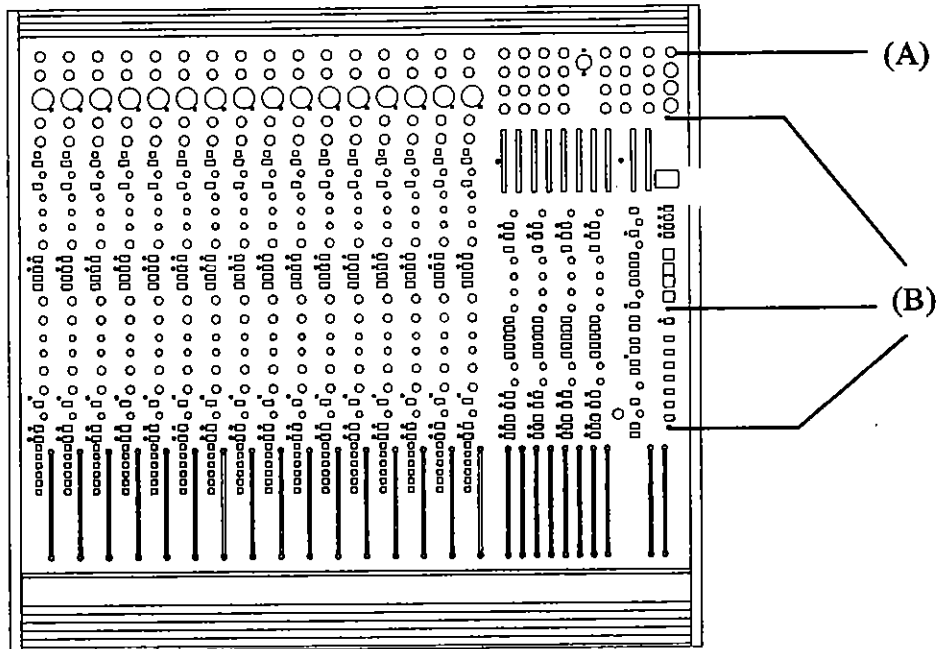

Fig. 1a.
2. Locate the mute automation control section on the right hand side of the console, *see Fig. 1a*. Unscrew the footswitch jack socket nut (A) and the 3 countersunk screws (B). Retain 2 of the screws for later.